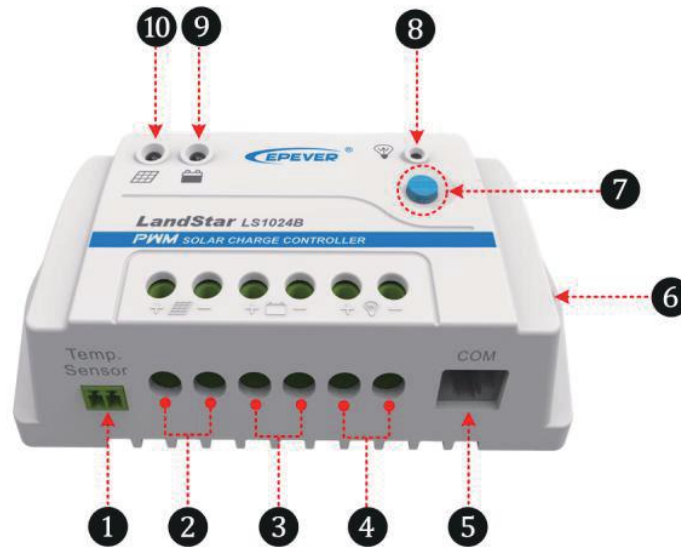

Figure 1 Characteristic
Step 2: When all the connections are complete, the Battery status indicator (9, Figure 1) should light up if the battery is connected to the charge controller. If the solar panel is under direct sunlight, the charging status indicator (10, Figure 1) will be on as well. (Detailed information under Specifications section)